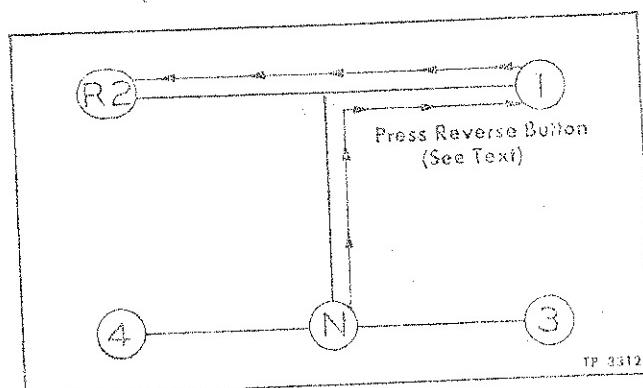

Figure 7—Transmission Shift Diagram
Transmission has four forward speeds and one reverse. Shift lever positions are illustrated in figure 7. Reverse shift pattern is indicated by arrows in figure 7.
- Press "REVERSE SHIFT" button at left of gauge panel (fig. 2). While holding button in, shift lever into "R2" position (fig. 7).